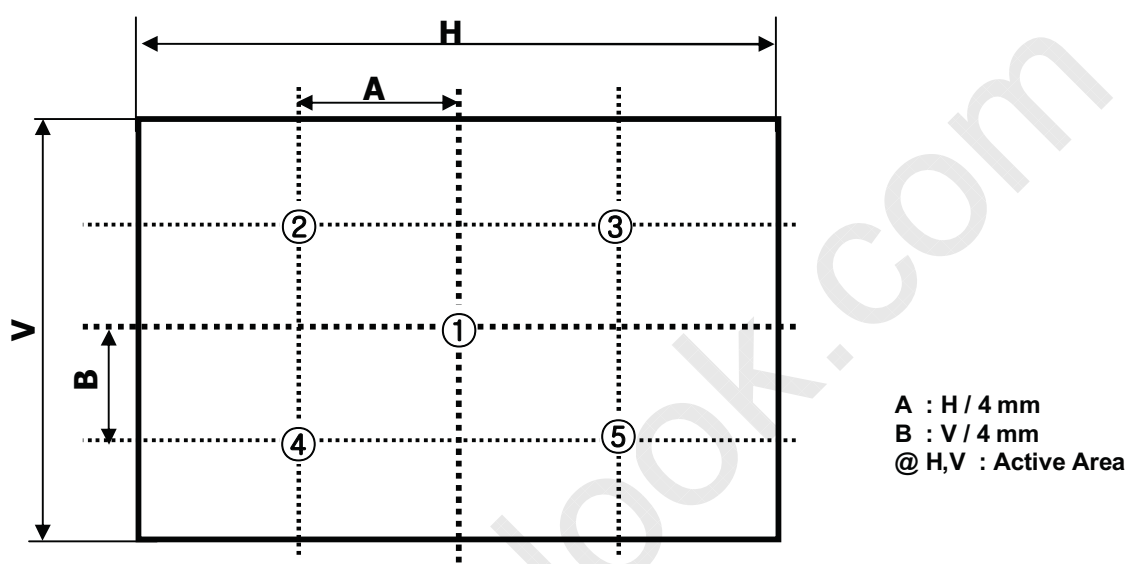

FIG. 2 5 Points for Luminance Measure
- Surface luminance is determined after the unit has been 'ON' and 1 Hour after lighting the backlight in a dark environment at $25 \pm 2^\circ\text{C}$. Surface luminance is the luminance value at center 1-point across the LCD surface 50cm from the surface with all pixels displaying white. For more information see the FIG. 2.
For more information, see the FIG. 2.